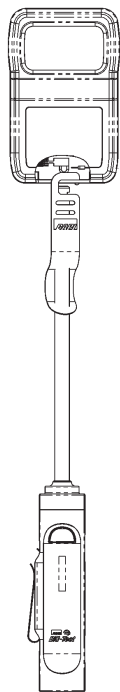

Fig. 32: Probe Clip Hanger used on a room sensor
- Room Sensor measurement is done by holding the Blü-Test probe directly under the sensor enclosure for 3 minutes or until the reading stabilizes. Body heat or breathing on the sensor is a major source of faulty readings, so holding the Blü-Test probe at the button end and standing away from the sensor is the best way to ensure a good measurement. The Probe Clip Hanger accessory (BA/PCH-1) simplifies this by holding the probe for you (Fig. 32).